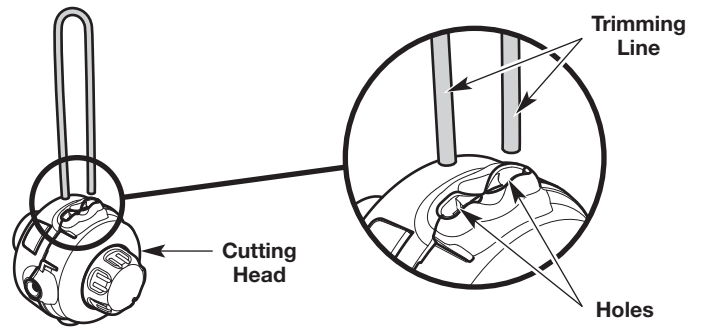
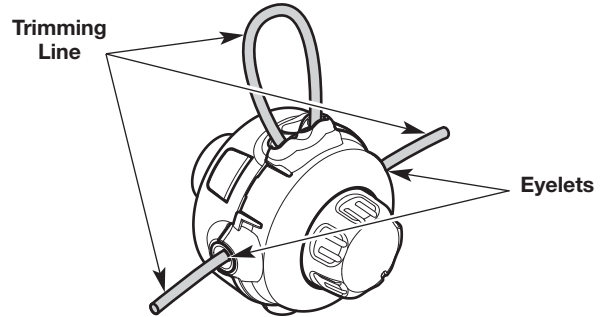

Fig. 31
Fig. 32
1. Remove the old line from the cutting head. Push one end of the trimming line into the cutting head until a loop of line protrudes from the head. Pull the loop to remove the line (Fig. 31).
3. Insert the ends of the new trimming line into the holes in the cutting head (Fig. 31). Push the line through the holes until both ends protrude from the eyelets (Fig. 32).